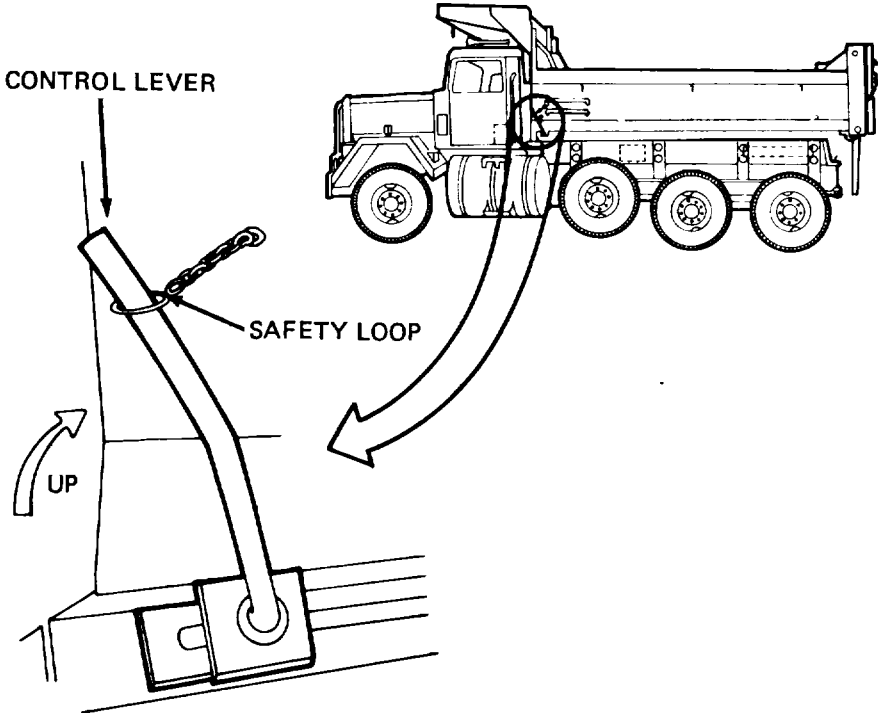

Figure 2-1. Control Lever and Safety Loop.
- a. Perform your before (B) PMCS (see chapter 3, section II). Notify Organizational Maintenance of any problems.
- (1) Be sure that the control lever is in the full up position. The chain safety loop must be in place, as shown in figure 2-1.
- b. Remove the safety loop from the tailgate control lever (fig. 2-1).
- j. Lift the tailgate control lever upward as far as it will go. Slide the safety loop over the lever (fig. 2-1).